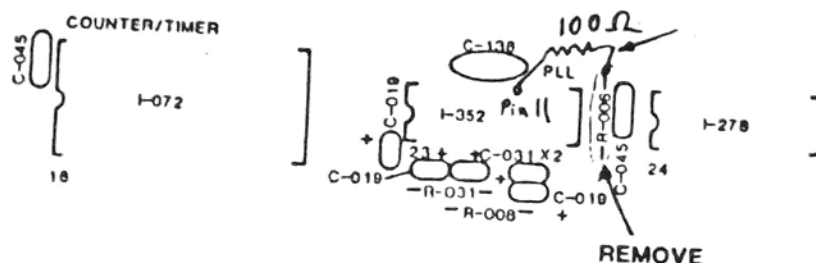

Figure 0.8
3. R225 (next to U223) is changed to 100 Ohms, then disconnected from +5V and connected directly to pin 11 of U223. (See Figure 0.8 below.) Depending on the serial number of the 2000, R225 may be either 470 or 200 Ohms. (Update UD2000-1 changed R225 to 200.)